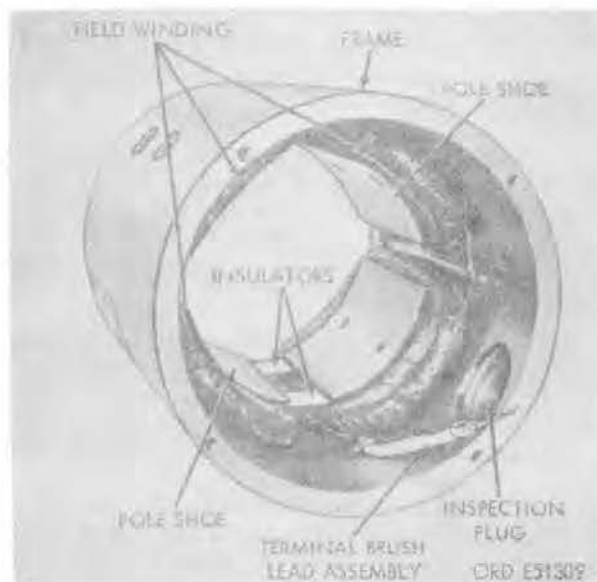

FIGURE 34. FRAME INTERNAL COMPONENTS.
d. Place insulated brush lead between field windings, and insert two strip type insulators between the pole shoes to keep brush lead from sagging on armature, refer to figure 34.